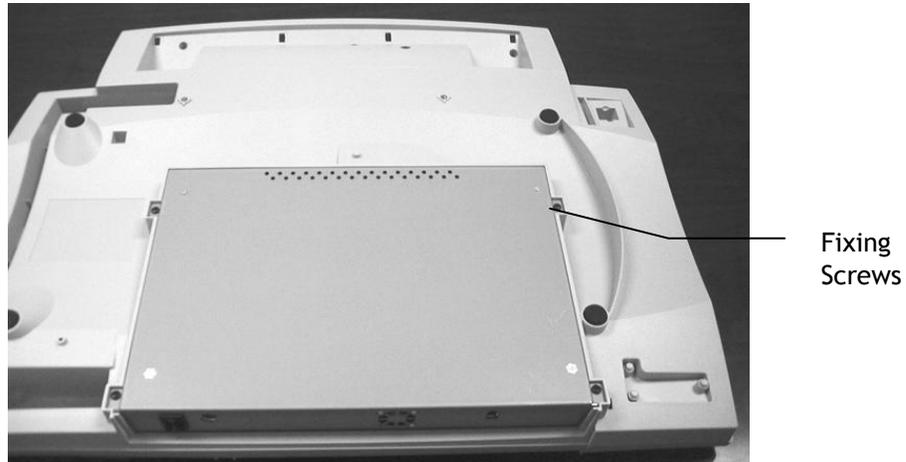

Figure 4.26 Metal Cover Removal
1. Loosen the metal cover fixing screws from the bottom housing as shown in Figure 4.26.